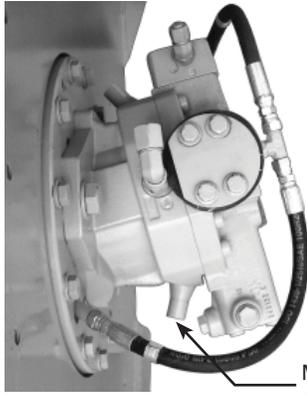

Fig. 1
2. Locate the minimum displacement adjusting screw, as defined in Fig. 1, directly adjacent to the motor ID tag. Break the plastic protective cap off the adjusting screw.